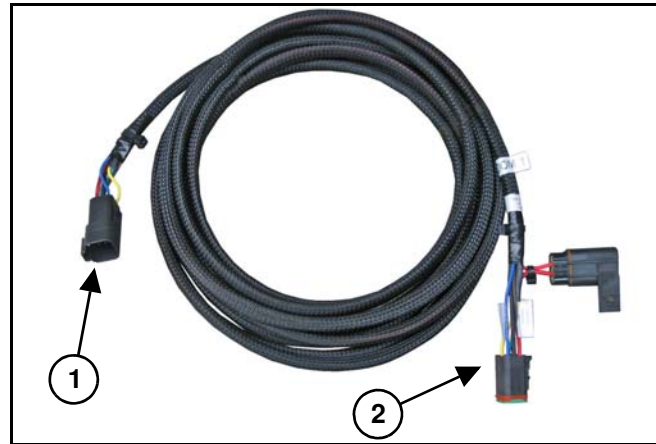

Figure 13
[Figure 13] - Connect the boom 1, 2, 3, etc. extension harness female Deutsch 6-Pin connector (1) to the valve driver on each boom section. Route the male Deutsch 6-Pin connector (2) fused end along the boom and connect it to the appropriate connector on the power hub. Repeat for each boom section.